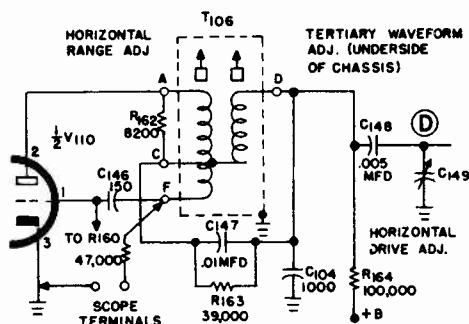

FIG. 4. ALIGNMENT CONNECTIONS USING AN OSCILLOSCOPE
6. Connect the oscilloscope as shown in Fig. 4. Adjust the TERTIARY WAVEFORM slug (located under chassis) until the sine wave is equal in amplitude to the peak of the sawtooth (See Fig. 5), while maintaining the picture in synchronization with the HORIZONTAL RANGE adjustment.